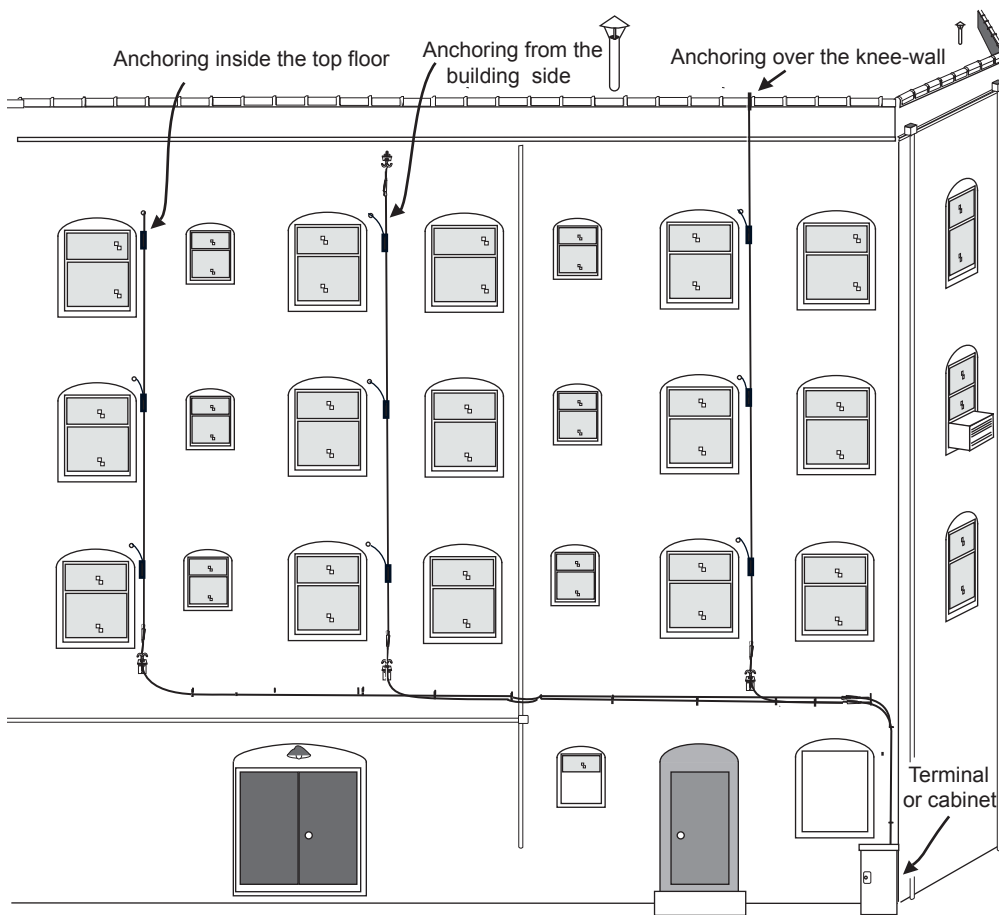

Figure 1
1.3 Corning's Façade FlexNAP Cable Assembly is designed to feed fiber vertically in a 1-12 floor MDU building, where indoor risers aren't available for use or aren't preferred. The cable hangs on the outside of the building and fibers are fed into the hallways through a hole drilled through the building wall, typically near a hallway window (Figure 1).